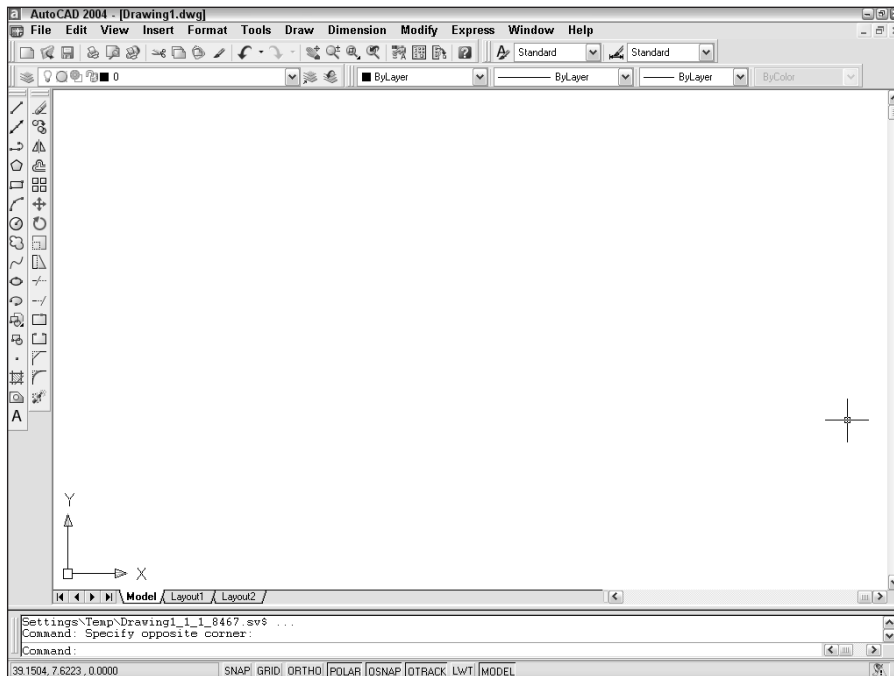

Figure 3-4: Docking the Draw and Modify toolbars at the left side of the screen
4. In the same way, drag the Modify toolbar to the right of the Draw toolbar. Your screen should look like Figure 3-4. (This configuration is similar to the way toolbars appeared by default in AutoCAD 2002.)